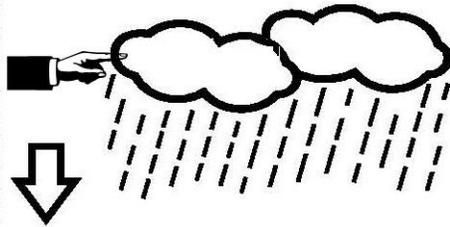

Figure 15
1. Touch the tendency once, as shown in Figure 15. The tendency will begin flashing and the  button and  button will be flashing (in the tendency section of the display).